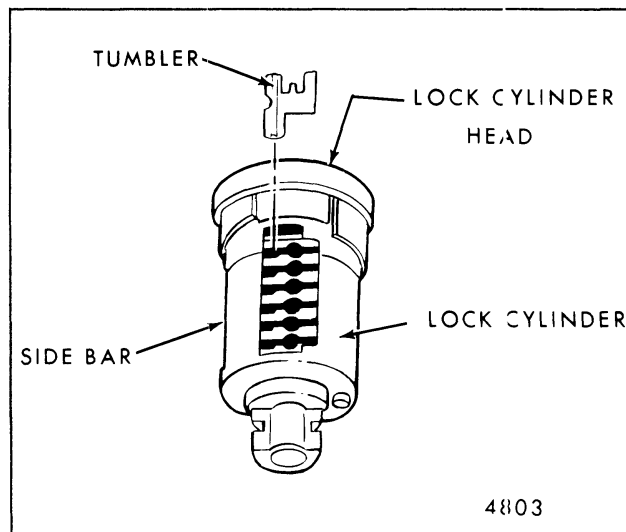

Fig. 1-4-Installing Tumblers
2. Starting at open end (head) of cylinder, insert tumblers in their proper slots in the order called for by the code, as shown in Figure 1-4.
3. Pull out side bar with fingers so that tumblers will drop completely into place (Fig. 1-4). Insert one tumbler spring in space provided above each tumbler.